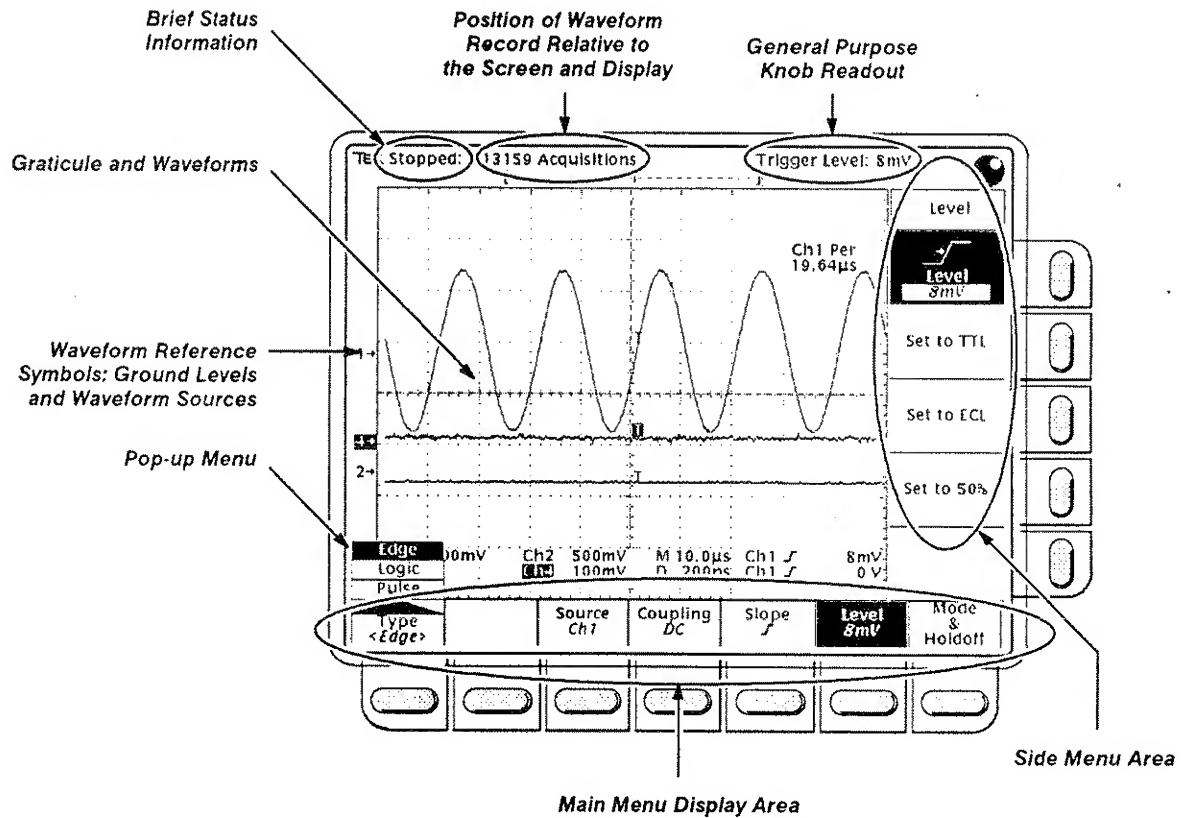

Figure A-1: Map of Display Functions
- Refer to Figure A-1. "Main menu" refers to the menu that labels the seven menu buttons under the display; "side menu" refers to the menu that labels the five buttons to the right of the display. "Pop-up menu" refers to a menu that pops up the when a main-menu button is pressed.
- The vertical scale readout for the channel under test shows a setting of 100 mV, and a square-wave probe-compensation signal about five divisions in amplitude is on-screen. (See Figure A-1 on page A-29 to locate the readout.)
- The vertical scale readout for the channel under test shows a setting of 1 V, and a square-wave probe-compensation signal about 1/2 division in amplitude is on-screen. (See Figure A-1 on page A-29 to locate the readout.)